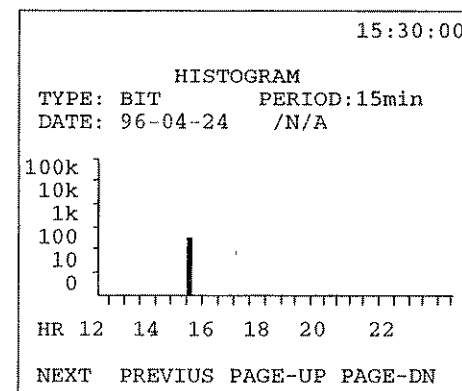

Figure 6.8F View Histogram
- 4) Using the Up and Down arrow keys, highlight either the CURRENT or SAVED histogram data. Press the VIEW (F1) key and refer to Figure 6.8F. (A PRINT (F2) option is also available, see below).